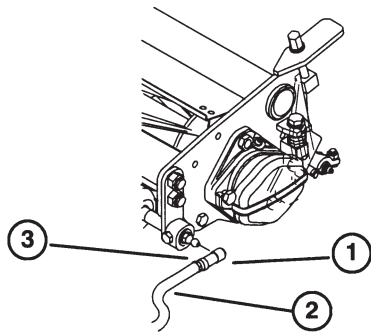

Figure 6
4. Slide the sleeve back on the ball joint and rotate the pull arm down so the socket fits over the ball stud. Release the sleeve so that it slides over the stud and locks the assemblies together (Fig. 6).
6. Align the sockets in the ball joints so the open side of the socket is centered toward the ball stud. Tighten the jam nuts to secure the sockets in position (Fig. 6).